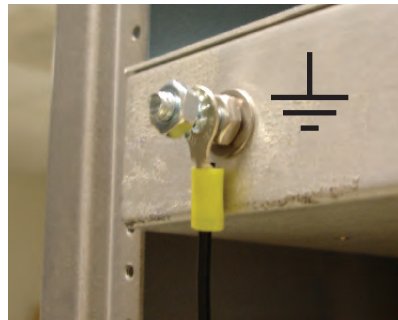

Figure 2-2. ATC300-1000/2000 Controller Chassis Grounding Connection.
3. Attach the ring-torque terminal to the grounding stud as shown in Figure 2-2.